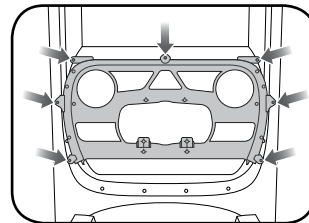

Fig. 1.7
- Choose the climate control trim piece from the DUR1 kit that lines up with your OEM climate buttons (the difference between the two is the spacing between the top and middle buttons). Install the trim into the main bezel using 4 screws. (Fig. 1.7)
- Install the buttons to the DUR1 bezel (in the reverse order of the removal, middle, top, then the bottom buttons) with the (16) supplied torx screws. (Fig. 1.7).